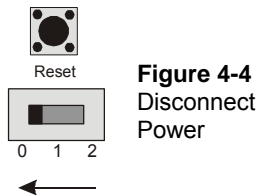

Figure 4-4
- √ Turn off the power as shown in Figure 4-4.